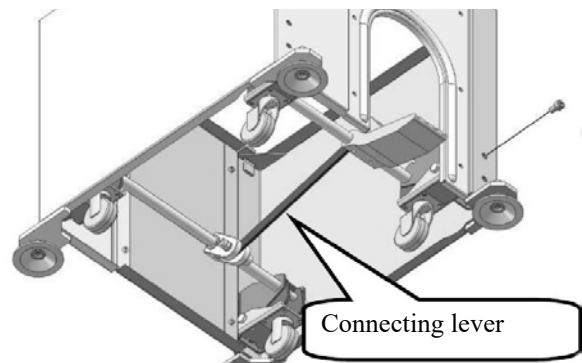

Fig. 9: Mounting the Castor Bracket
Step 5: Mount the front and rear castor brackets to the machine base (Fig.9).
Step 6: Bolt the front and rear castor brackets together using the connecting rod (Fig.9).